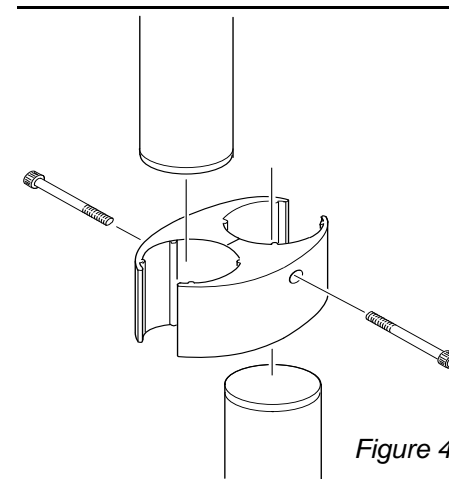

Figure 4
5. To install the light post extension (Figure 4):